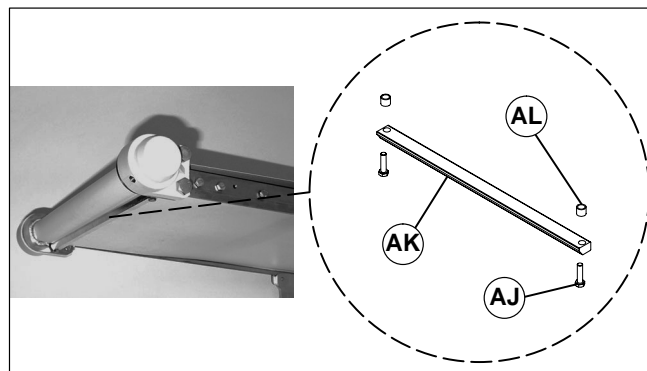

Figure 17
1. If installed, remove and retain two M5 hex head screws (AJ of Figure 17), bottom wiper (AK) and two sleeves (AL).
8. If removed, install sleeves (AL of Figure 17), bottom wiper(s) (AK) and M5 hex head screws (AJ). Tighten screws to 33 in-lb (3.7 Nm).
6. If removed, install sleeves (AL of Figure 17), bottom wiper(s) (AK) and M5 hex head screws (AJ). Tighten screws to 33 in-lb (3.7 Nm).